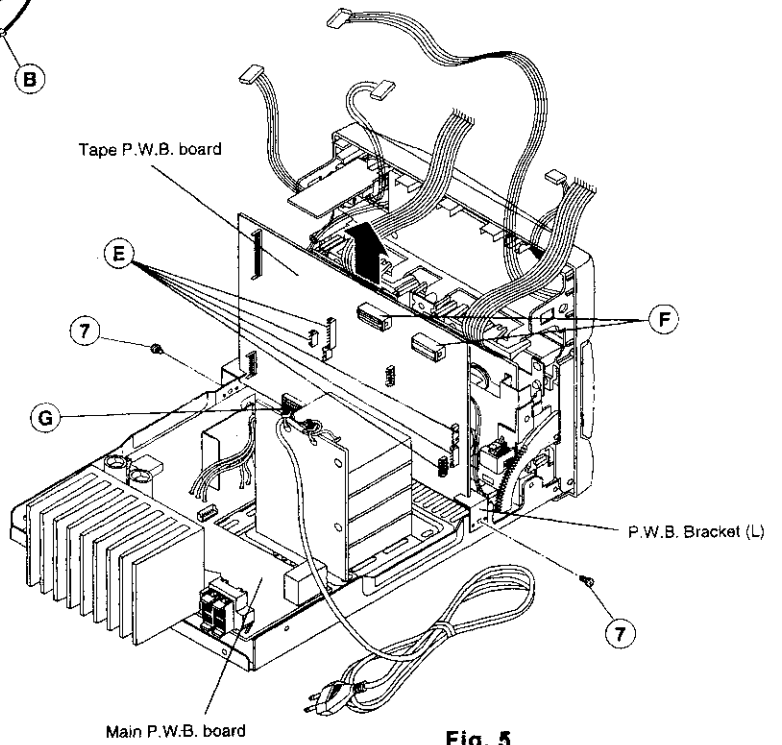

Fig. 5
5. **Removal of Tape P.W.B. Board (Fig. 5)**